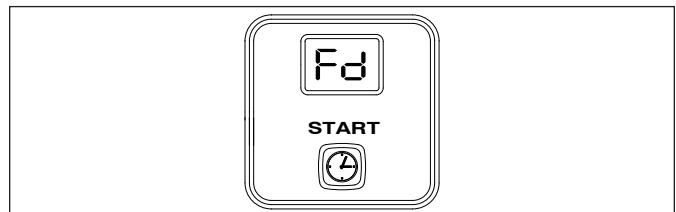

Figure 8. LED Display for Flush Duration Mode
2. When Fd is displayed, press and release the Start button to view the current setting (Figure 8).